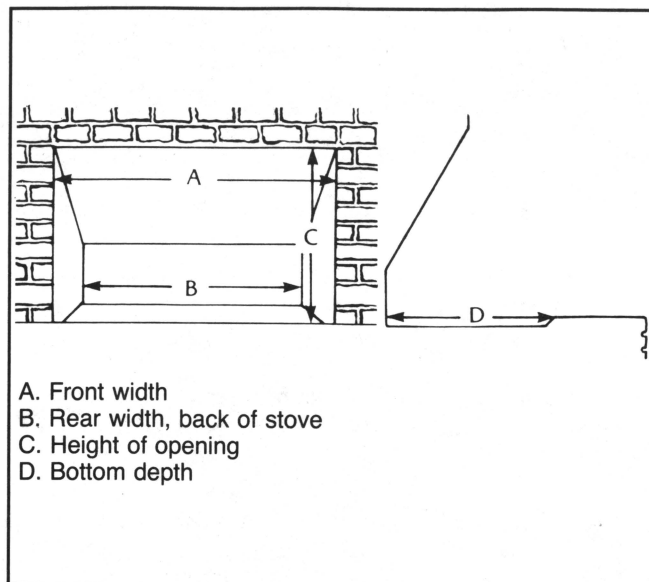

Figure 2. Before you go shopping, measure your fireplace firebox.
- Before going out to shop for an insert, measure your fireplace firebox size in inches. Measure the height and width of the firebox at the front face as well as at the rear wall. Also measure the depth of the firebox (see Figure 2).